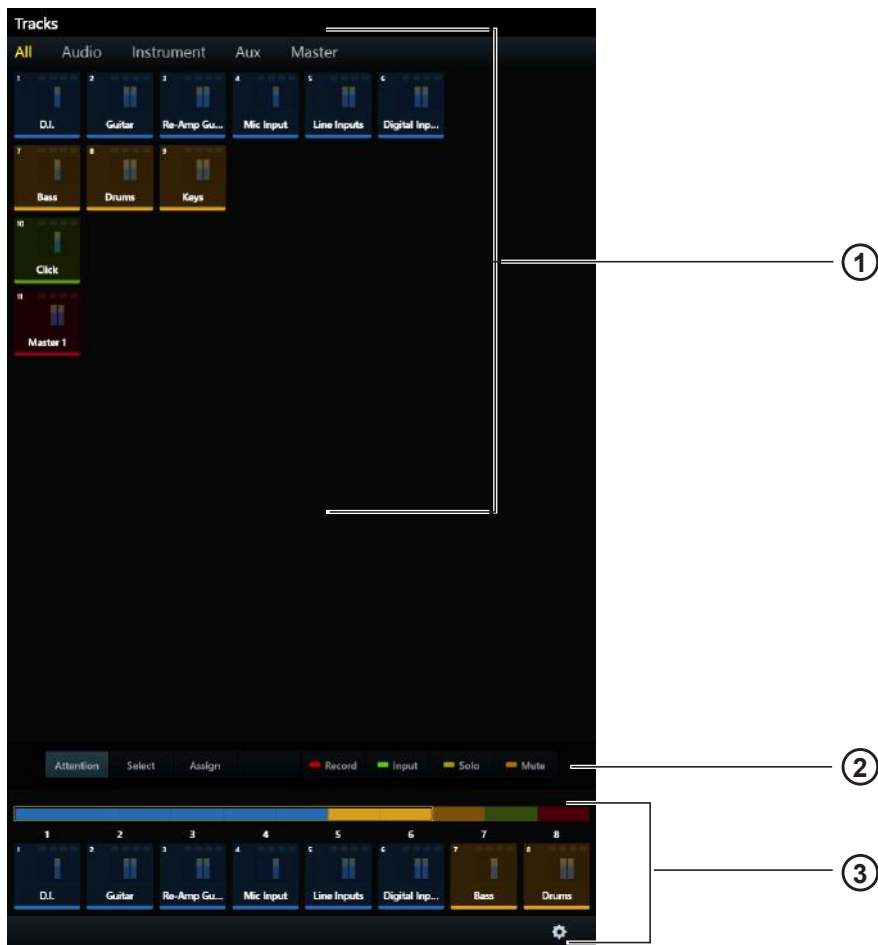

Figure 41. Tracks screen
*If your audio application also supports track colors, you can configure the Track Matrix to display track rows by color as shown in Figure 41 (for more information, see Display Breaks On Track Color).*
The Attention, Select, Assign, Record, Input, Solo, and Mute controls (2 in Figure 41) are exclusive: One is always active, and only one can be active at a time.